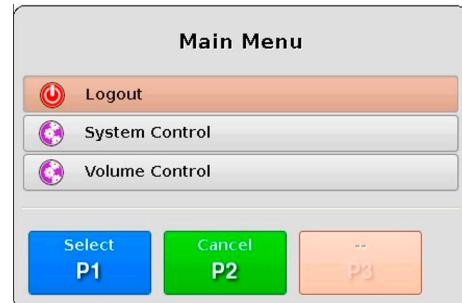

Fig. 22: Main menu at the local station
Pressing the **M** key on the keyboard opens the main menu (see Fig. 22). Depending on the user role (user login, \triangleleft 25) the menu items can differ. Some items can be invisible. Navigate between the menu items using the navigator and select the desired menu item by pressing **P1**. The following table explains accessible menu items.
- ▷ Press the  key to open the main menu (see Fig. 22).
- ▷ Press the **M** key to open the main menu (see Fig. 22).